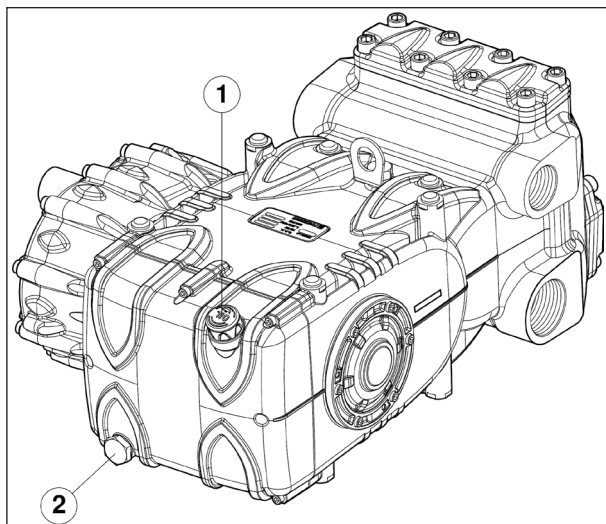

Fig. 3
Check the oil level and if necessary refill from the oil dipstick pos. ①, Fig. 3.
The correct checking of the oil level is made with the pump not running, at room temperature. The oil change must be made with the pump at working temperature, removing the plug pos. ②, Fig. 3.